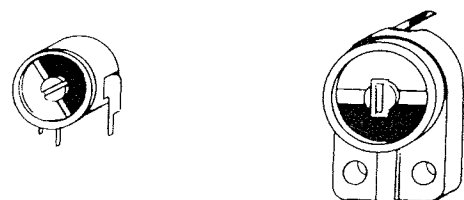

Figure 6.6 – Variable Capacitors Shown at Maximum Capacitance Settings
- f. Preset all RF Amplifier variable tuning capacitors to their mid-range settings according to the diagram in figure 6.6.
j. Key transceiver, tune PA TUNE control for maximum output, and adjust L1 through L4 for maximum output. The positions of the slugs should be fairly even from coil to coil. Make sure tuning capacitors are all at half capacitance. Refer to figure 6.6.